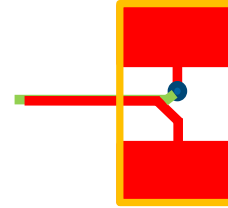

FIGURE 68. RECOMMENDED LAYOUT PATTERN FOR CURRENT SENSE TRACES REGULATOR
12. The current-sensing traces must be laid out very carefully because they carry tiny signals with only tens of mV. For the current-sensing traces close to the power sense resistor ( $R_{SEN_x}$ ), the layout pattern shown in Figure 68 is